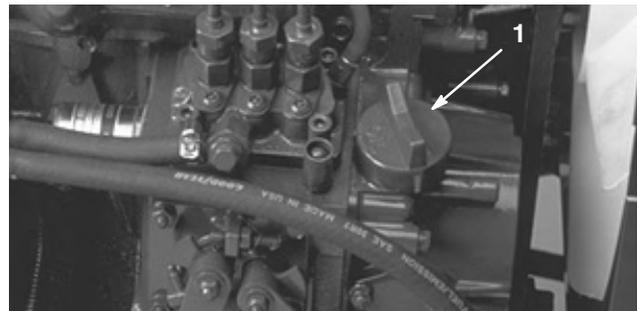

Figure 12
3. If the oil level is low, remove the oil fill cap (Fig. 12) and gradually add small quantities of oil, checking the level frequently, until the level reaches the FULL mark on the dipstick.